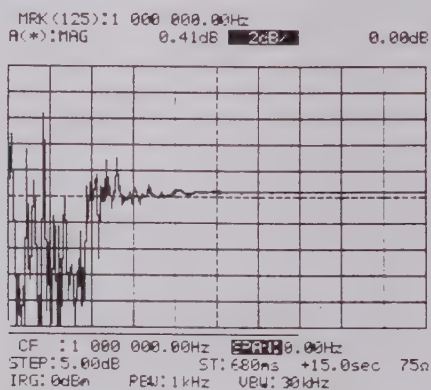

Fig. 2-59 Level Sweep (2)
When changing the measuring item from TRACE L (R) to TRACE MAGNITUDE, the waveform shown in Fig. 2-59 is displayed on the CRT.